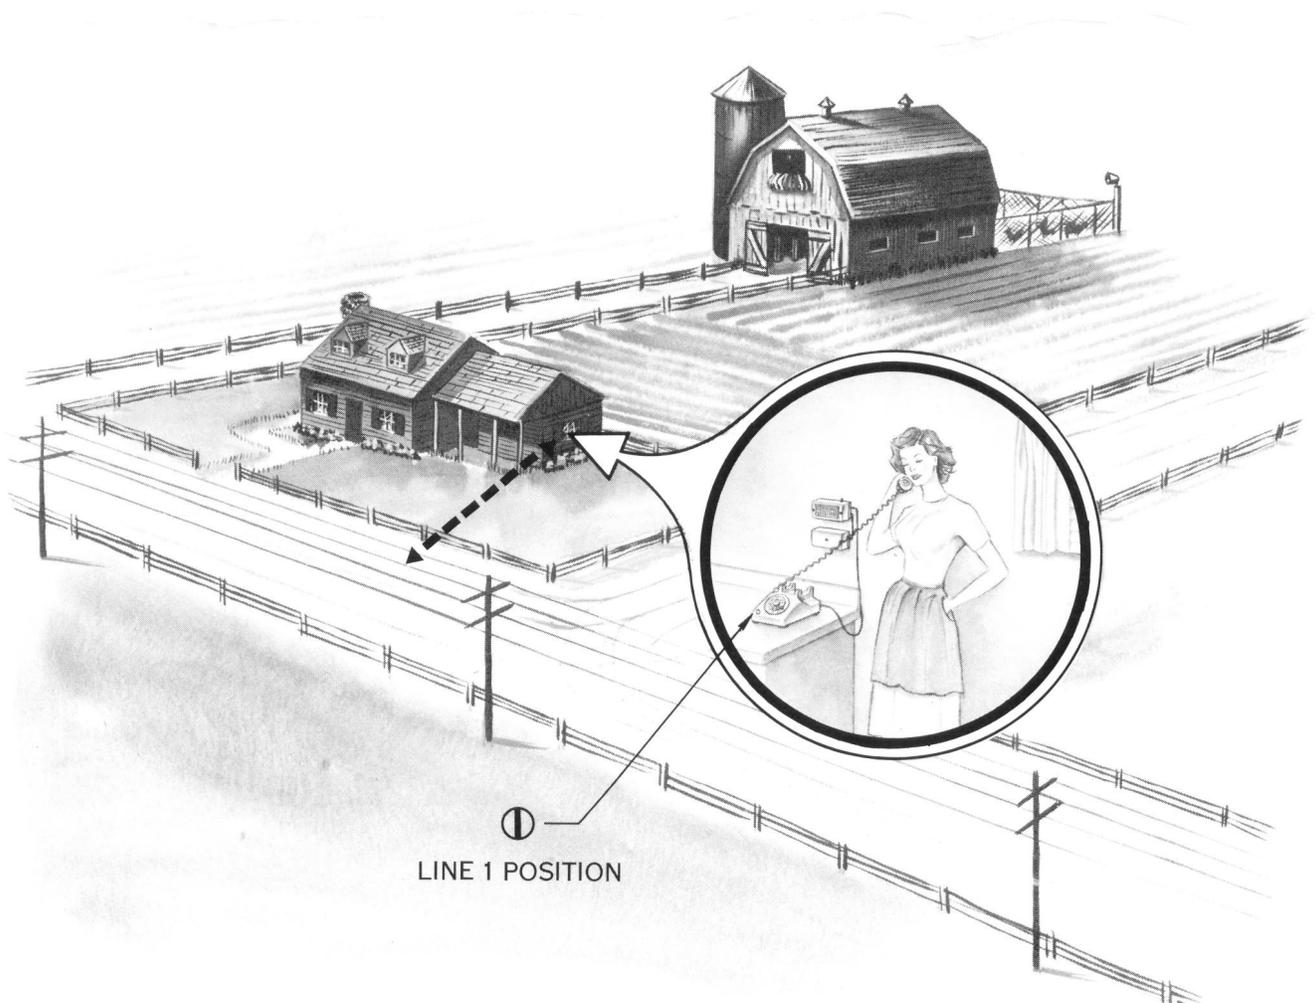

Fig. 7 - Central Office Call
3.01 To connect a central office line at any telephone set, place the line key in the line 1 position. The ringer operates on a central office call regardless of the position of the line key. (See Fig. 7.)